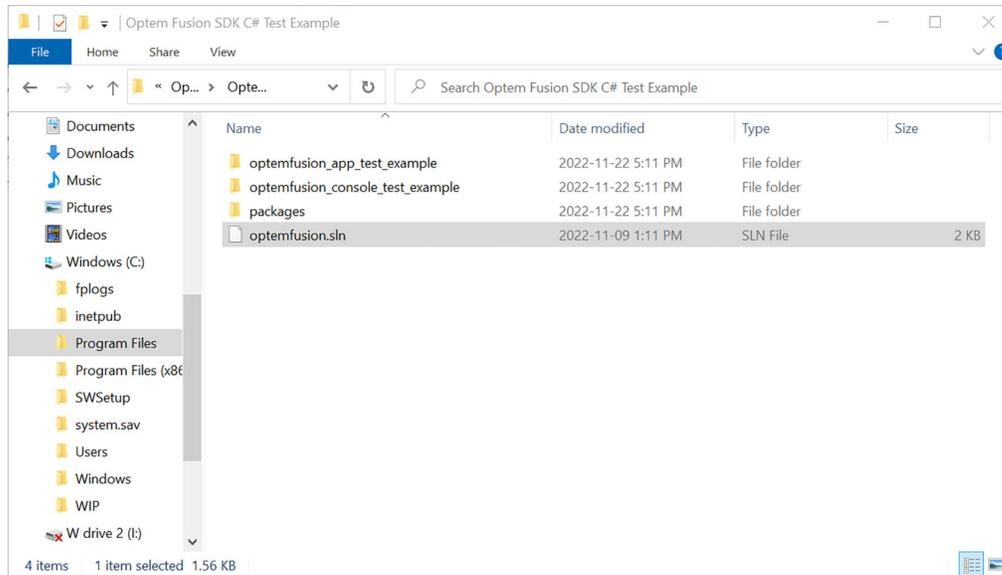

Figure 45 C# Test Example Executable File Folders
2. Locate the executable file from the following folder (see Figure 45):